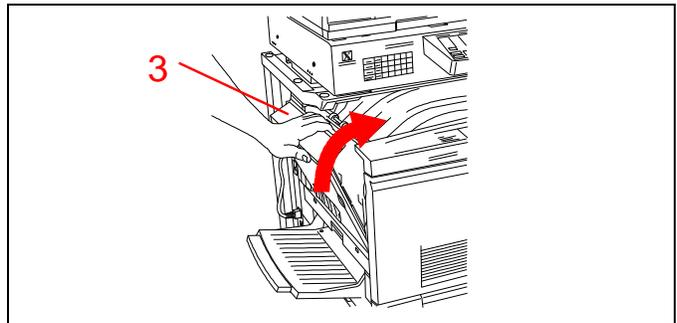

Figure 19
3. See Figure 19. Close the top left cover.